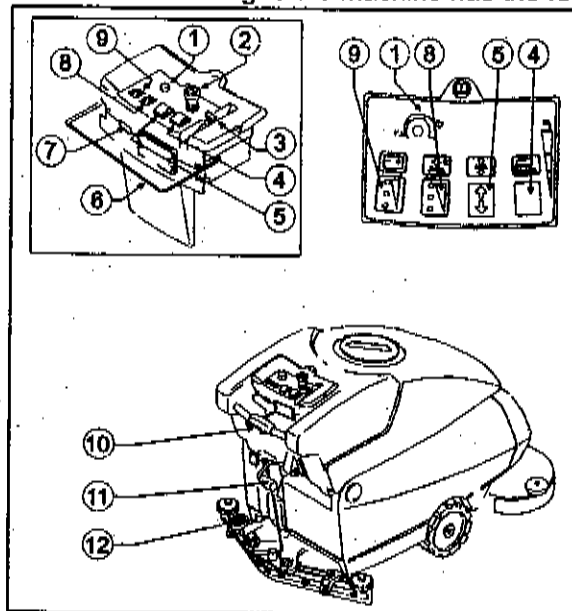
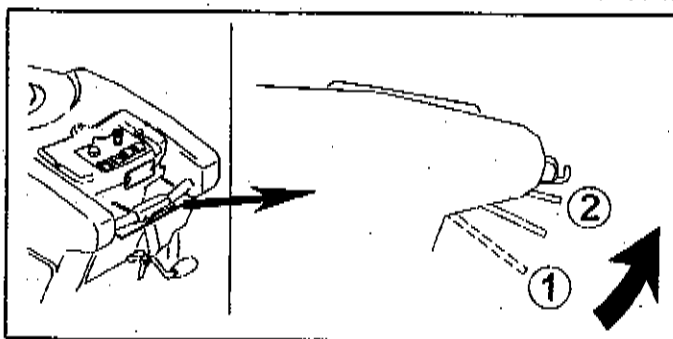

Fig. 8
Fig. 10
- 1) Stop the machine and press the emergency button (fig. 8, ref. 2); engage the parking brake by means of the pedal (fig. 8, ref. 12);
With reference to fig. 8 the machine has the following controls and leds:
- 1) Stop the machine and press the emergency button (fig. 8, ref. 2); engage the parking brake by means of the pedal (fig. 9, ref. 5);
- raise the head by pressing the brush up-down button (fig. 8, ref. 5) on the arrow up;
- disengage the parking brake via the pedal (fig. 8, ref. 12);
- Insert the key to release the emergency button (fig. 8, ref. 2);
- below the handgrip is a lever (fig. 8, ref. 6): by pulling the lever up (fig. 10, ref. 2) or pressing it down (fig. 10, ref. 1), according to whether you wish to move forward or back, the drive motor is switched on and the machine will begin to move;
- adjust the running speed via the potentiometer (fig. 8, ref. 1);
- once you have reached your destination, engage the parking brake via the pedal (fig. 8, ref. 12).
- Raise the head by pressing the brush up-down button (fig. 8, ref. 5) on the arrow up;
- press the brush release button (fig. 8, ref. 4) for a couple of seconds: when the button is released, the brushes will be released.
- press the brush up-down button (fig. 8, ref. 5) on the arrow down and keep it pressed until the first led of the brush pressure indicator comes on (fig. 8, ref. 8); in this phase the brush motor may come on and then switch off for a few moments: this is a normal part of the brush engagement procedure.
- check that the cock control lever (fig. 8, ref. 3) is at the position "off";
- lower the head by pressing the brush up-down button (fig. 8, ref. 5) on the arrow down;
- insert and operate the key to release the main switch (fig. 8, ref. 2) and enable all the machine functions: the battery charge level indicator will come on (fig. 8, ref. 9);
- move the cock lever (fig. 8, ref. 3) to the position of minimum flow of solution: the detergent solution begins to reach the brushes;
- press the brush up-down button (fig. 8, ref. 5) on the arrow down: the head will begin to move down and as soon as the brushes touch the floor the brush motors will come on. As the brushes rotate, the solution is distributed over the floor;
- lower the squeegee by means of the proper lever (fig. 8, ref. 11): the suction motor comes on;
- press the drive lever (fig. 8, ref. 6) placed under the handgrip: the drive motor is started and the machine starts moving forward;
- check cleaning quality during work and adjust, as required, the flow of solution sent to the brushes (by rotating the cursor (fig. 8, ref. 3)) and the pressure exerted by the head-brushes on the floor (via the brush up-down button (fig. 8, ref. 5) until the test pressure indicator (fig. 8, ref. 8) indicates the required level).